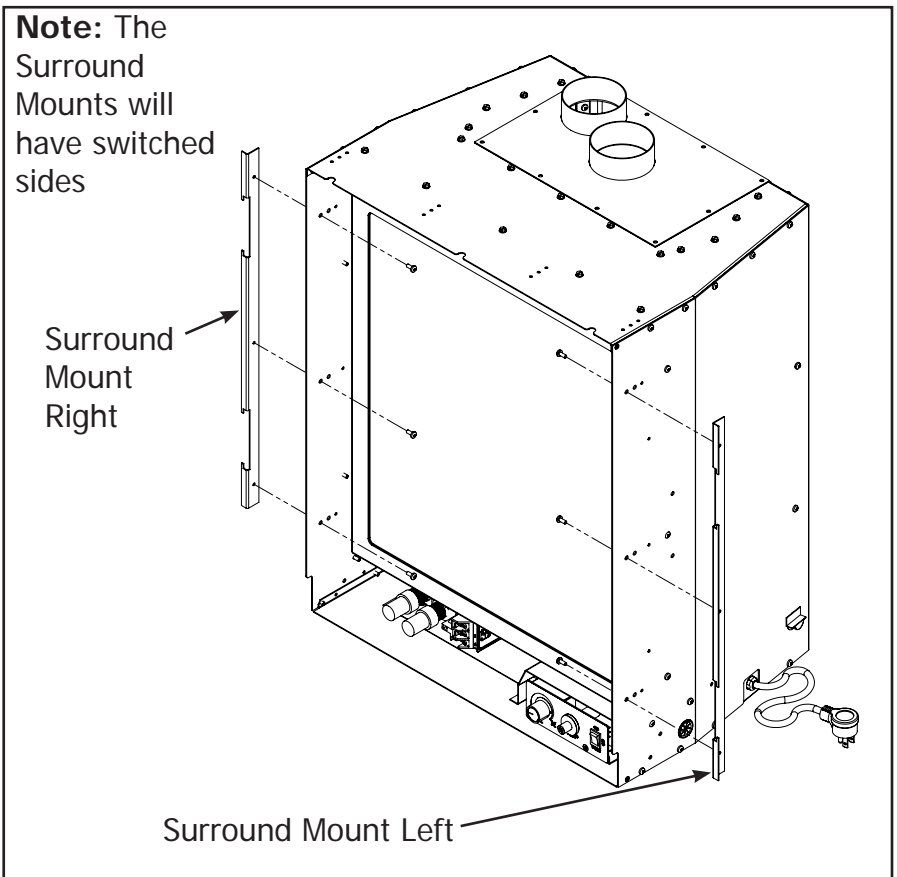

Figure 4: Surround Mount Reinstall
- Install the Left Surround Mount to the outside of the **RIGHT** Cabinet using the three (3) T20 screws (shown in Figure 4)
- Install the Right Surround Mount to the outside of the **LEFT** Cabinet using the three (3) T20 screws (shown in Figure 4).